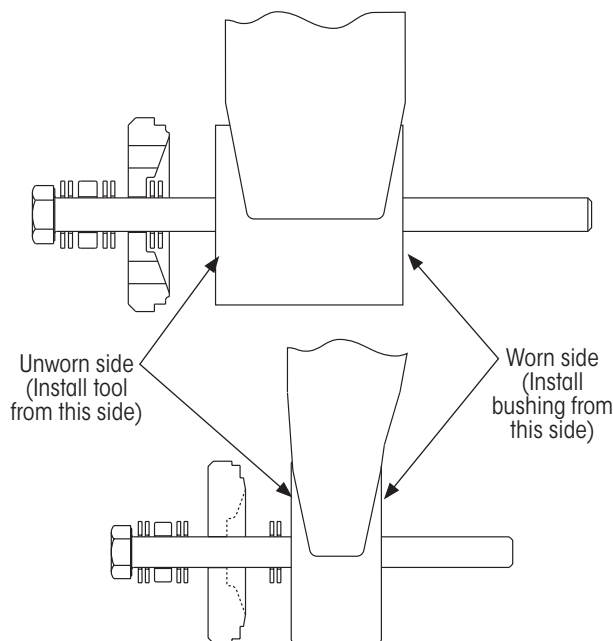

Figure 34: Install bushing from worn (but dressed) side
- B. If **bushing tube wear was detected** in step 2 on page 14, the assembled tool must be inserted into the unworn side of the bushing tube (Figure 34) so the replacement bushing can be installed from the worn (but dressed) side of the bushing tube.